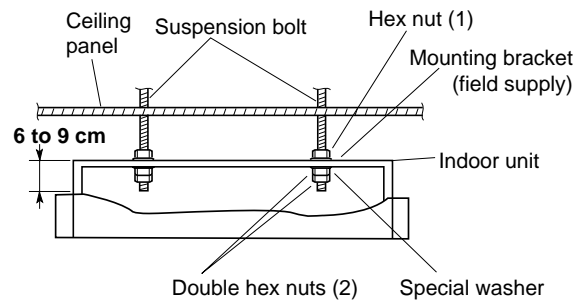

Fig. 3-77
- (1) Follow step (1) to (5) of section 3-21 to affix the suspension bolts and adjust the double hex nuts (1) in advance to suspend the indoor unit. (Fig. 3-77)
- (2) Suspend the indoor unit according to step (6) of Section 3-21.
- (3) Attach mounting brackets (4 pcs / field supply) to the suspension bolts and secure each with double hex nuts as shown in Fig. 3-77 and 3-78.